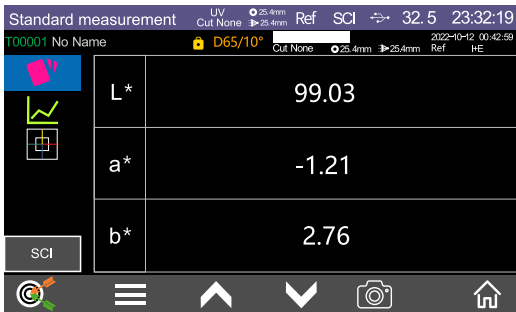
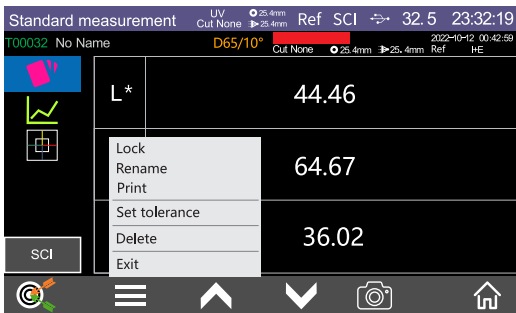
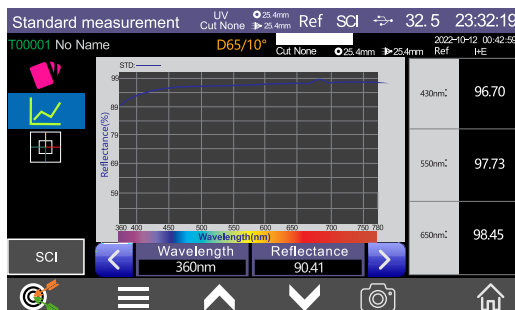

Figure 14 Standard Measurement Interface
Figure 15 Standard Measurement
Figure 16 Spectra of standard samples
- (17) Specify wavelength: Click the wavelength data to select the specified wavelength, as shown in Figure 16;
- (18) Sub-menu : Click , the options: lock, rename, print, set tolerance, delete, exit, as shown in Figure 15.
Enter the standard sample measurement interface (FIG. 2) after the above preparation are completed, put the tested sample at the reflection test port of the instrument, press the measurement key to start the measurement, and the buzzer will make a "drop" sound, while the LED indicator will blink, until the flashing stops, the buzzer will make a "drop" sound again, that is, the measurement is completed. that interface is shown in Figure 14, Figure 15 and Figure 16.